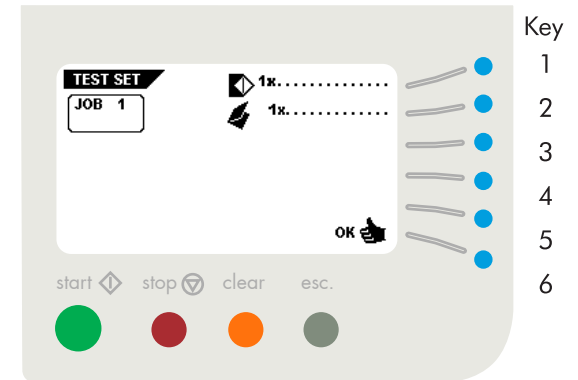

Fig. 50
After pressing key 4 in the "Job settings" menu the display shows the screen as shown fig. 50. With this function it is possible to test the programmed job before saving it. The following choices are available:
- feed one envelope onto the insert table (key 1).
- make one insert (key 2).
- return to the job settings menu (key 6).